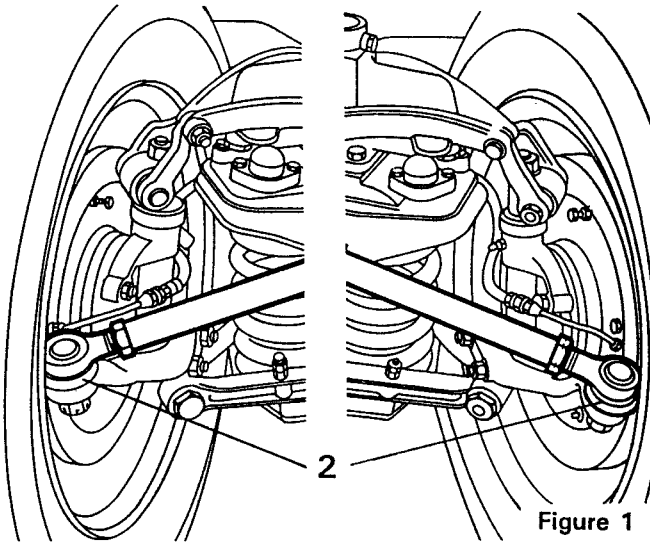

Figure 1
2. Disconnect the two drag links from the steering arms. See figure 1.